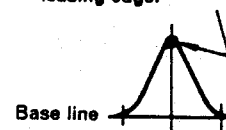

Fig. 8
1. Feed in a weak signal to TP102 from the genescope. Adjust T101 for maximum gain and the waveform indicated in Fig. 8. If the center of the waveform cannot be lined up on the marker, adjust the right/left balance.